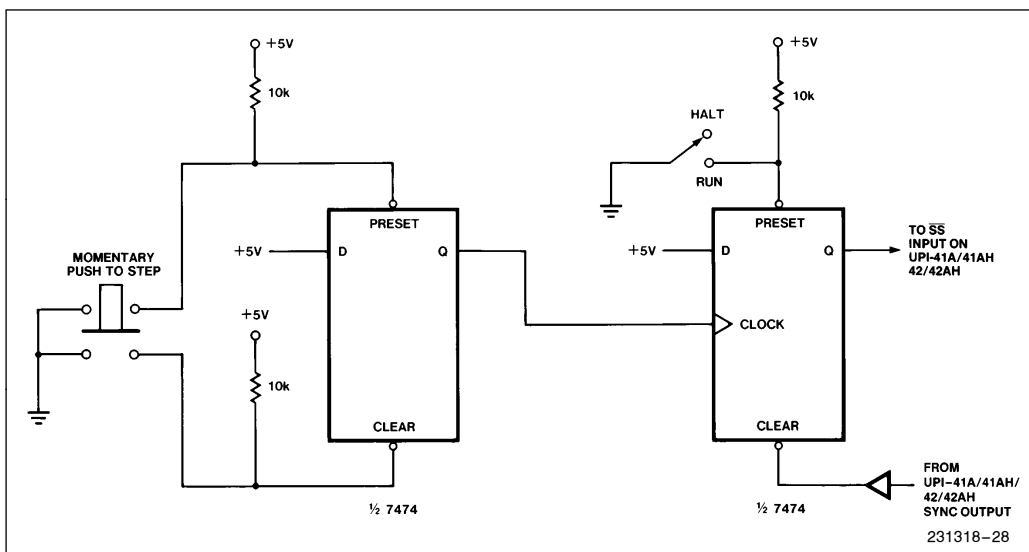
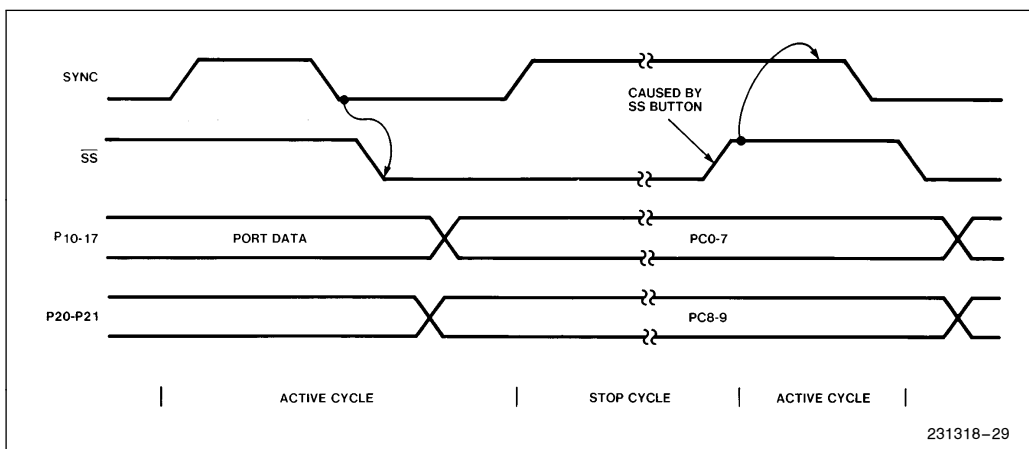
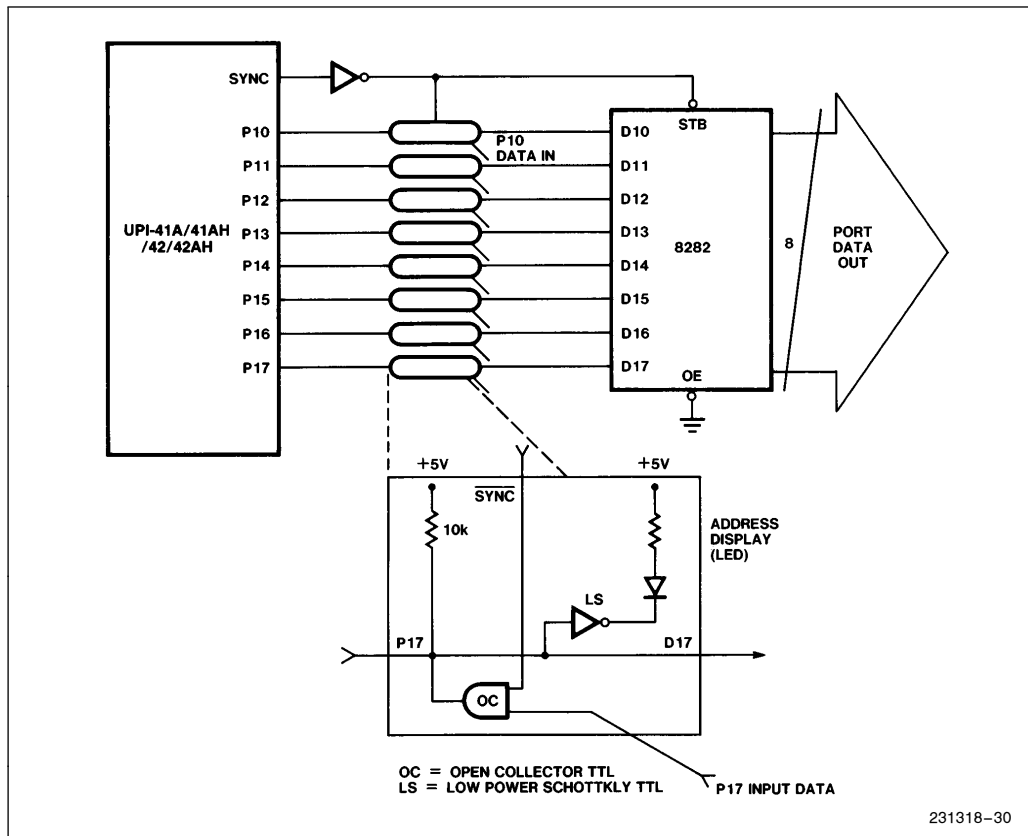

Figure 4-1. Single-Step Circuit
Figure 4-2. Single-Step Timing
Figure 4-3. Latching Port Data
Figure 4-1 illustrates a recommended circuit for single-step operation, while Figure 4-2 shows the timing relationship between the SYNC output and the \overline{SS} input. During single-step operation, PORT 1 and part of PORT 2 are used to output address information. In order to retain the normal I/O functions of PORTS 1 and 2, a separate latch can be used as shown in Figure 4-3.
- 5) To stop the processor at the next instruction \overline{SS} must be brought low again before the next SYNC pulse—the circuit in Figure 4-1 uses the trailing edge of the previous pulse. If \overline{SS} is left high, the processor remains in the “RUN” mode.
Figure 4-1 shows a schematic for implementing single-step. A single D-type flip-flop with preset and clear is used to generate \overline{SS} . In the RUN mode \overline{SS} is held high by keeping the flip-flop preset (preset has precedence over the clear input). To enter single-step, preset is removed allowing SYNC to bring \overline{SS} low via the clear input. Note that SYNC must be buffered since the SN7474 is equivalent to 3 TTL loads.